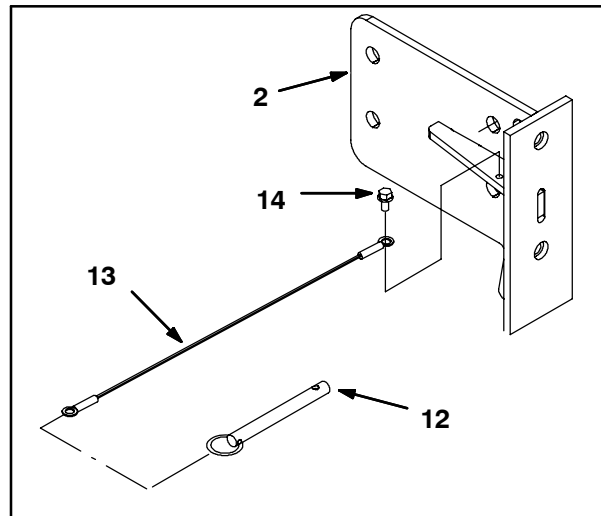

FIG. 6
- Install the hitch pin (12) onto the cable (13). Refer to Fig. 6.
- Use a hex screw (14) to install the cable (13) onto the right rear support (2). Refer to Fig. 6.